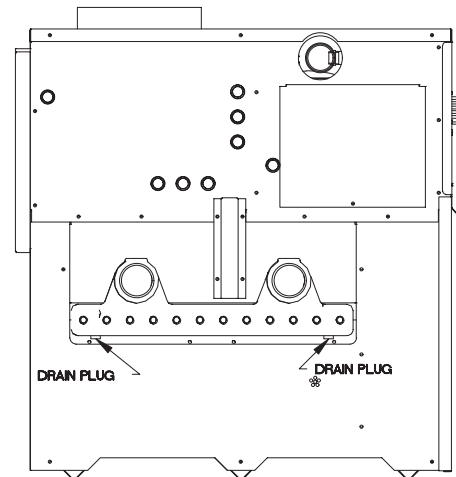

Figure 3 – Draining Pool Heater
4. Drain the pool heater completely. Remove the threaded drain plugs from the inlet and outlet sides of the front header on the heat exchanger (see Figure 3). Blow all water out of the heat exchanger. Leave drains open until Spring.